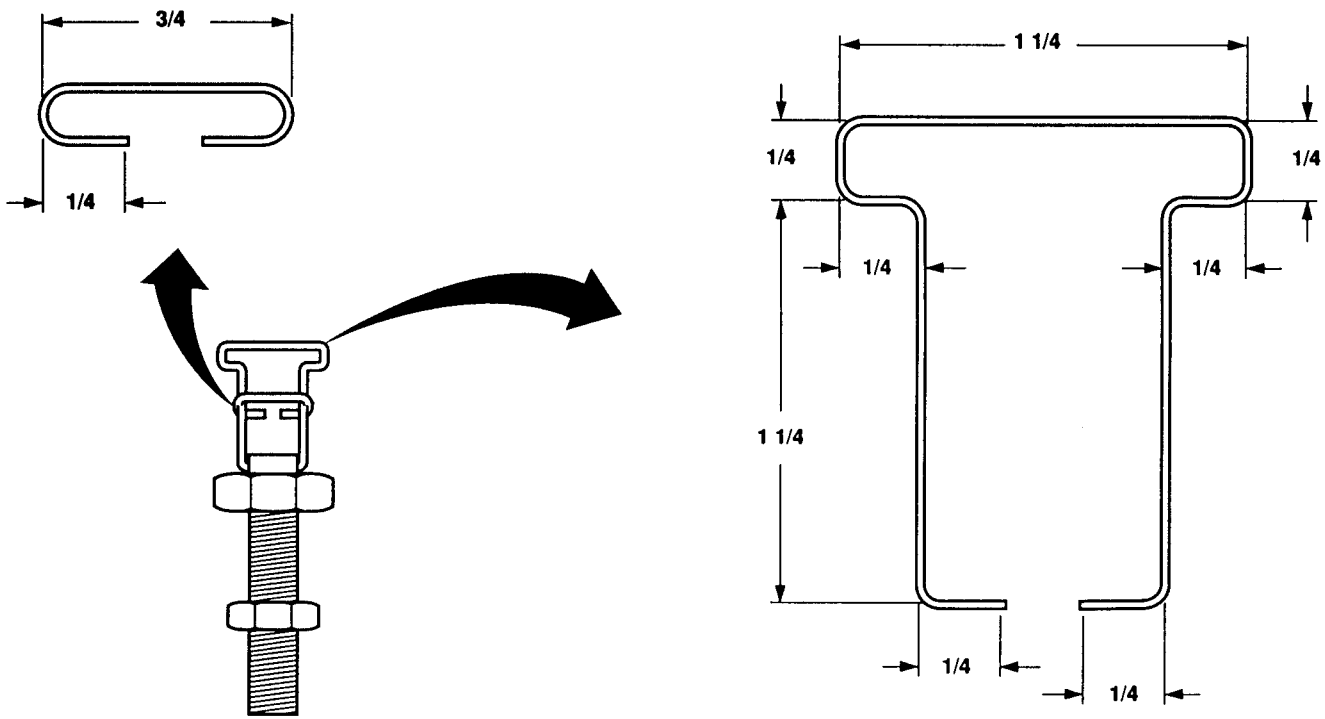

Figure 4-15. Switch Box Load Terminal Repair.
1. Release clamping catch (5) and open load terminal door (1).
3. Make sure nut (13) is installed on terminal body (14).
4. Fabricate and install terminal clip in accordance with figure 4-15.